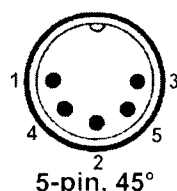

Figure 2
7. **Pedal test:** Disconnect the 5-pin socket N°4 from the power unit. See Appendix 1, page 2-4. Measure the resistance between terminals 1 and 2 (see figure 2) with an ohmmeter.